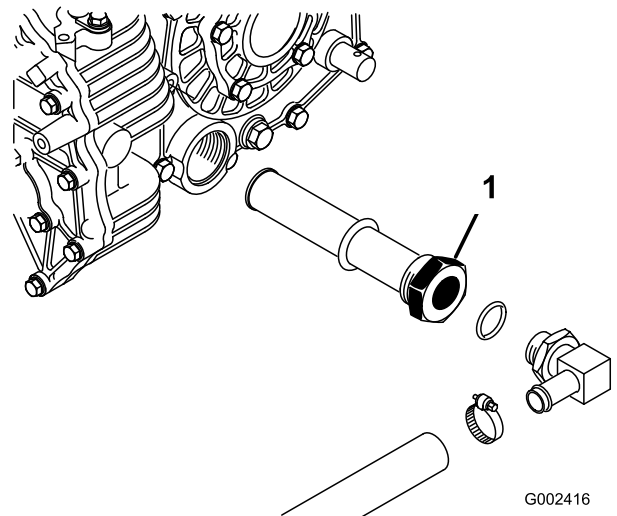

Figure 68
5. Note the orientation of the hydraulic hose and 90° fitting connected to the strainer on the side of the reservoir (Figure 68).